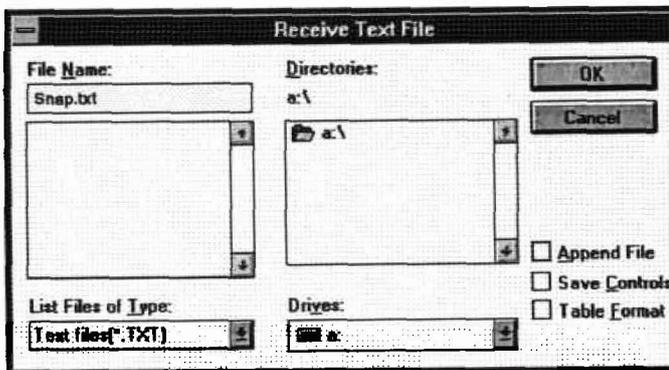

Figure 10 *Receive Text File Dialog Box*
4. Open the Transfers Window and select the Receive Text File option. A Receive Text File Dialog Box will open. See Figure 10.